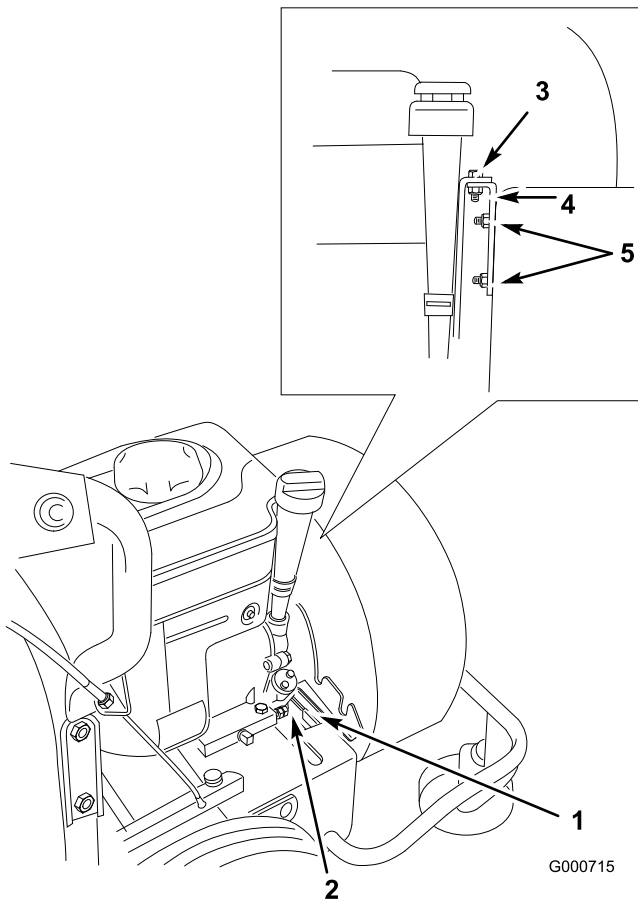

Figure 23
- Reseat the housing, nesting the lower blower housing mounting bracket onto the front edge of the engine base (Figure 23).
- Install engine bracket on the housing mounting studs with 2 locknuts (Figure 23).
13. Secure the bracket to the engine bracket with the bolt removed previously (Figure 23).